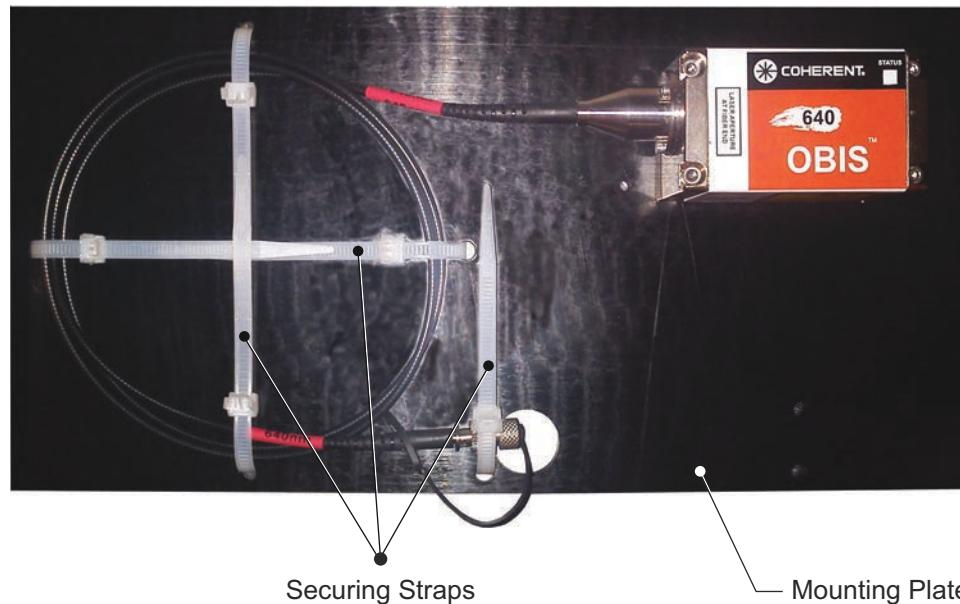

Figure 9-3. OBIS FP Laser Secured to the Mounting Plate
1. Secure the OBIS LX Laser to the mounting plate using the four M3 x 35 mm screws and washers. Carefully coil the fiber into a circle and fasten with the five re-sealing zip ties (refer to the Figure 9-3).